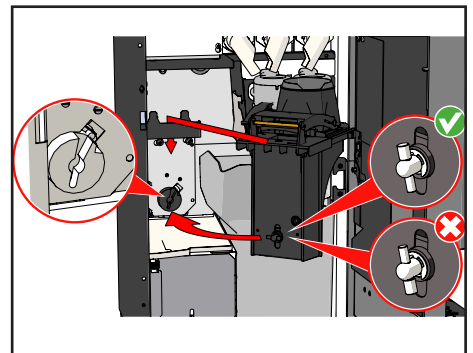

Figure 16.
2. Re-install the brewer (see Figure 16) and outlet arm.